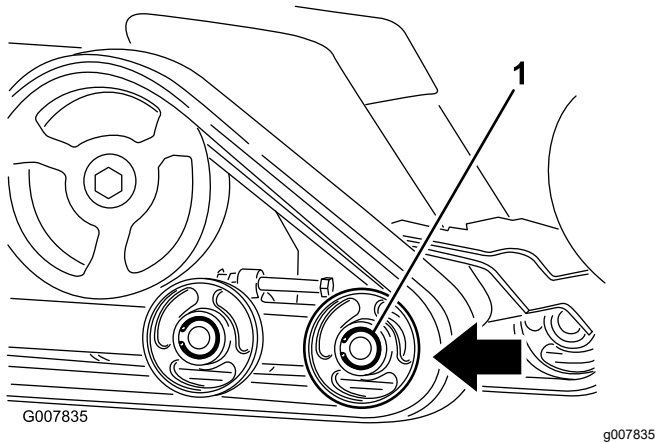

Figure 47
6. Push the front road wheel rearward as far as it can go (Figure 47).
8. When the track is off the road wheel, remove it from the machine (Figure 47).
9. Beginning at the drive wheel, coil the new track around the wheel, ensuring that the lugs on the track fit between the spacers on the wheel (Figure 47).
10. Push the track under and between the rear and center road wheels (Figure 47).